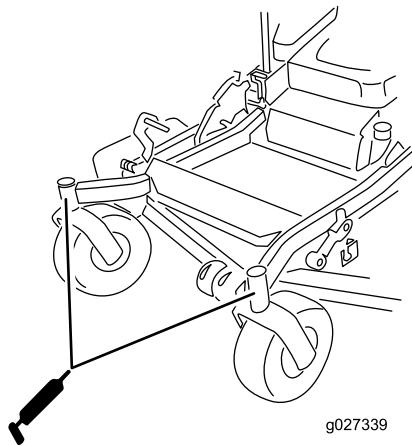

Figure 49
11. Install the hex plug and dust cap (Figure 49).
12. Grease the caster-wheel bearings (Figure 49).